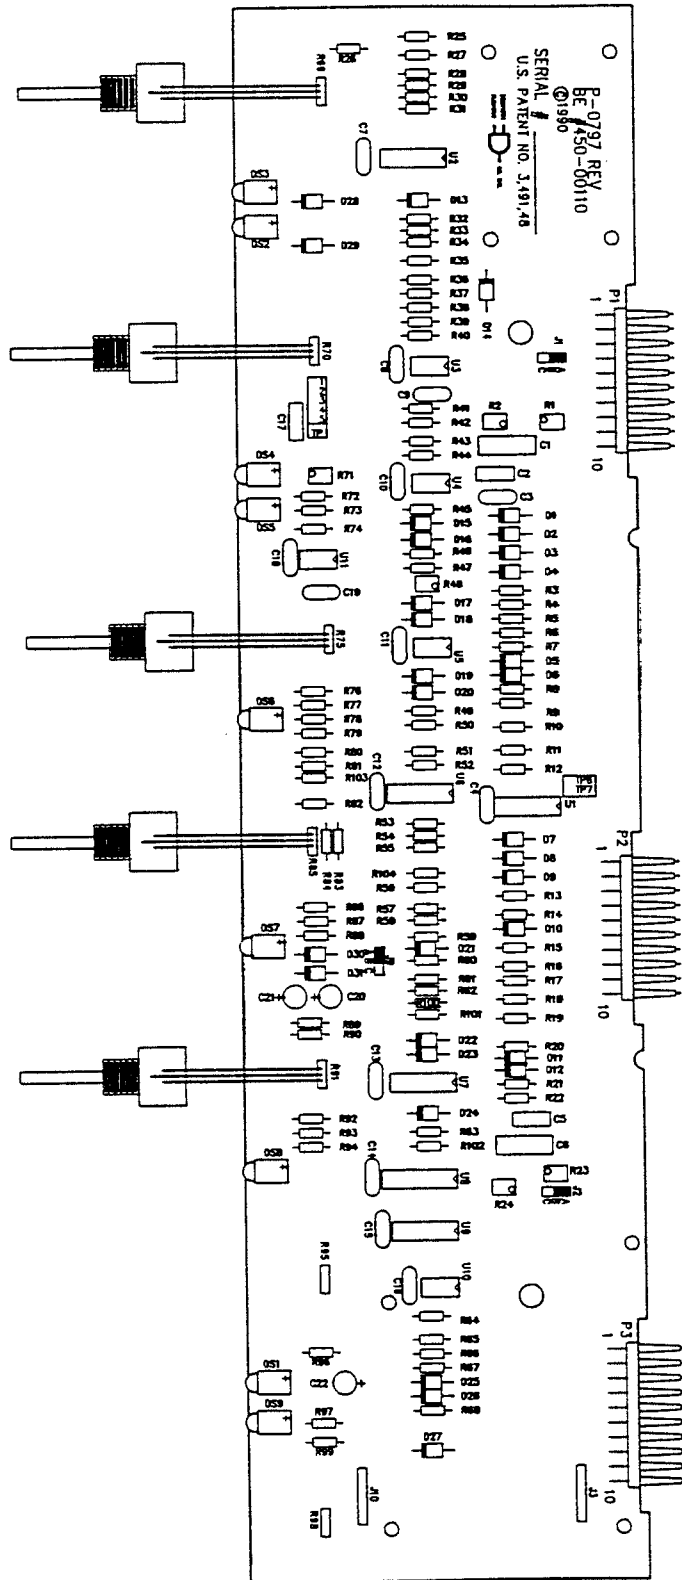

FIGURE 6 Voltage Board Component Location
- Referring to the tables below and to the **SELECTED RESISTORS** section of the **PARTS LIST**, choose the correct resistor value or jumper wire. Use 20 gauge insulated wire for all jumpers. Refer to Figures 6 and 7 for the location of these parts.